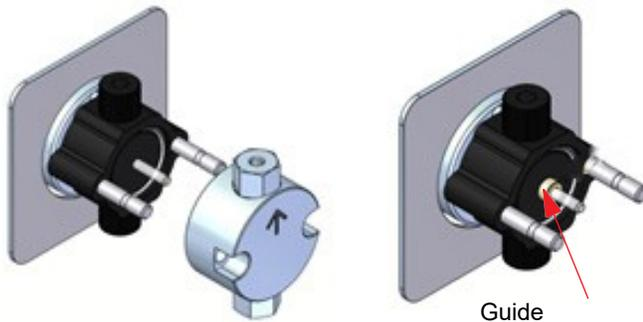

Figure 7: Removing the pump head
2. Carefully pull the pump head forward and off the guide pins. Pull straight and slowly to prevent damage to the piston (Figure 7).